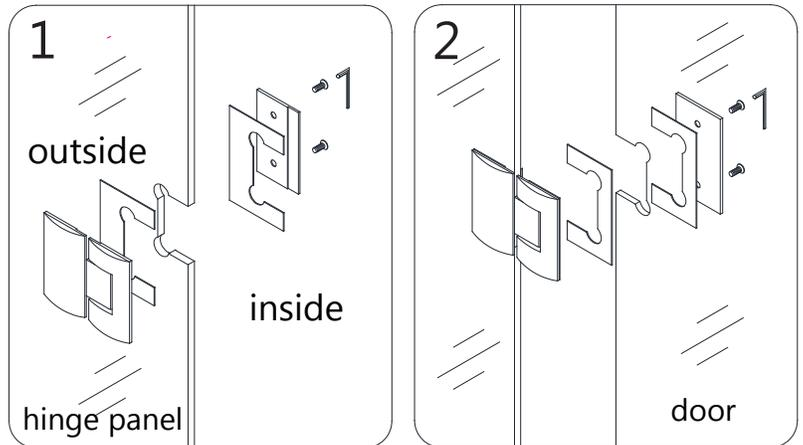

Fig 8
8. Attach the **Hinges (#06)** to the **Hinge Panel Glass (#01)** (with the bolts facing inside the shower). Use at least one gasket per side. Make sure the hinges are flush to the edge of the glass and level. Carefully bring the **Door Glass (#02)** into the shower between the two stationary panels. Level up the **Door Glass (#02)** next to the **Hinge Panel Glass (#01)** and fasten the hinges onto the **Door Glass (#02)**. Make sure the top edges of the **Door Glass (#02)** and both **Glass panels** are flush and level. (**Fig 8, Fig 9 and Fig 10**)